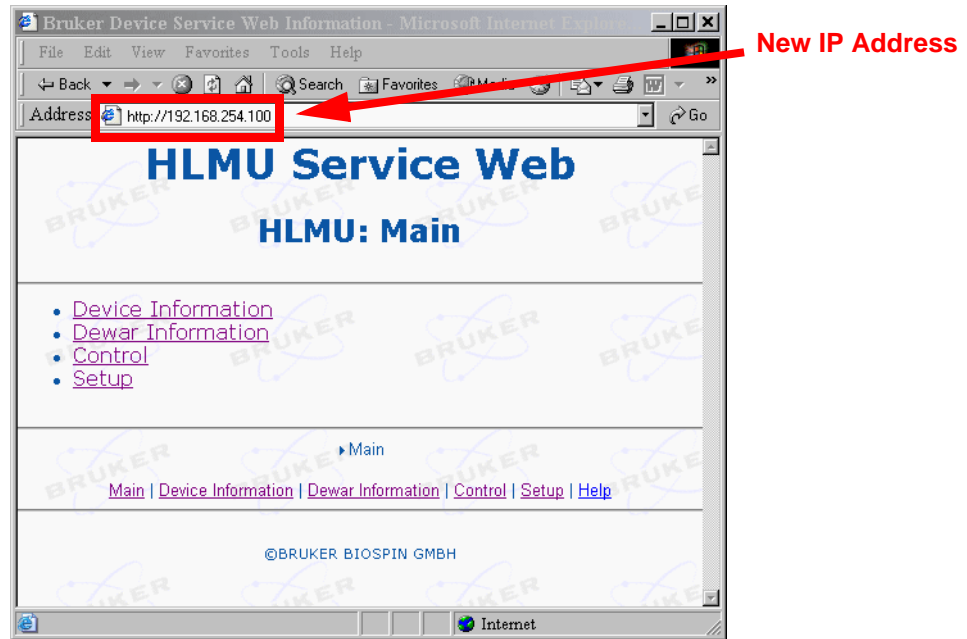

Figure 4.4. The HLMU Service Web
You can now connect the HLMU to the Ethernet. Enter the new IP address in your Web browser Address field to start HLMU Service Web (see **Figure 4.4.**).
- Click **Setup** on the HLMU Service Web Main page (see **Figure 4.4**).
- Click **Setup** on the HLMU Service Web Main page (see **Figure 4.4.**).